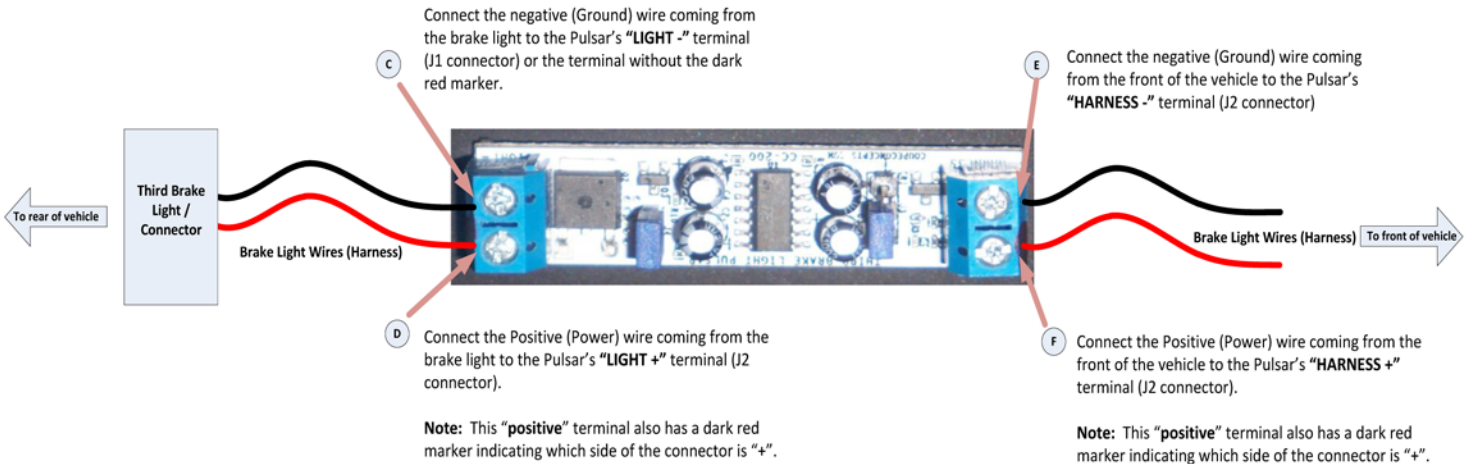

Figure 5 – Connecting the Pulsar to the brake wires/harness
- 5.) Connect the Pulsar to the vehicle's brake light wires as shown in **Figure 5 – steps C,D, E, and F:**
4. Swap (reverse) wires C and D (see **Figure 5**) and test Pulsar functionally again
5. Swap (reverse) wires E and F (see **Figure 5**) and test Pulsar functionally again